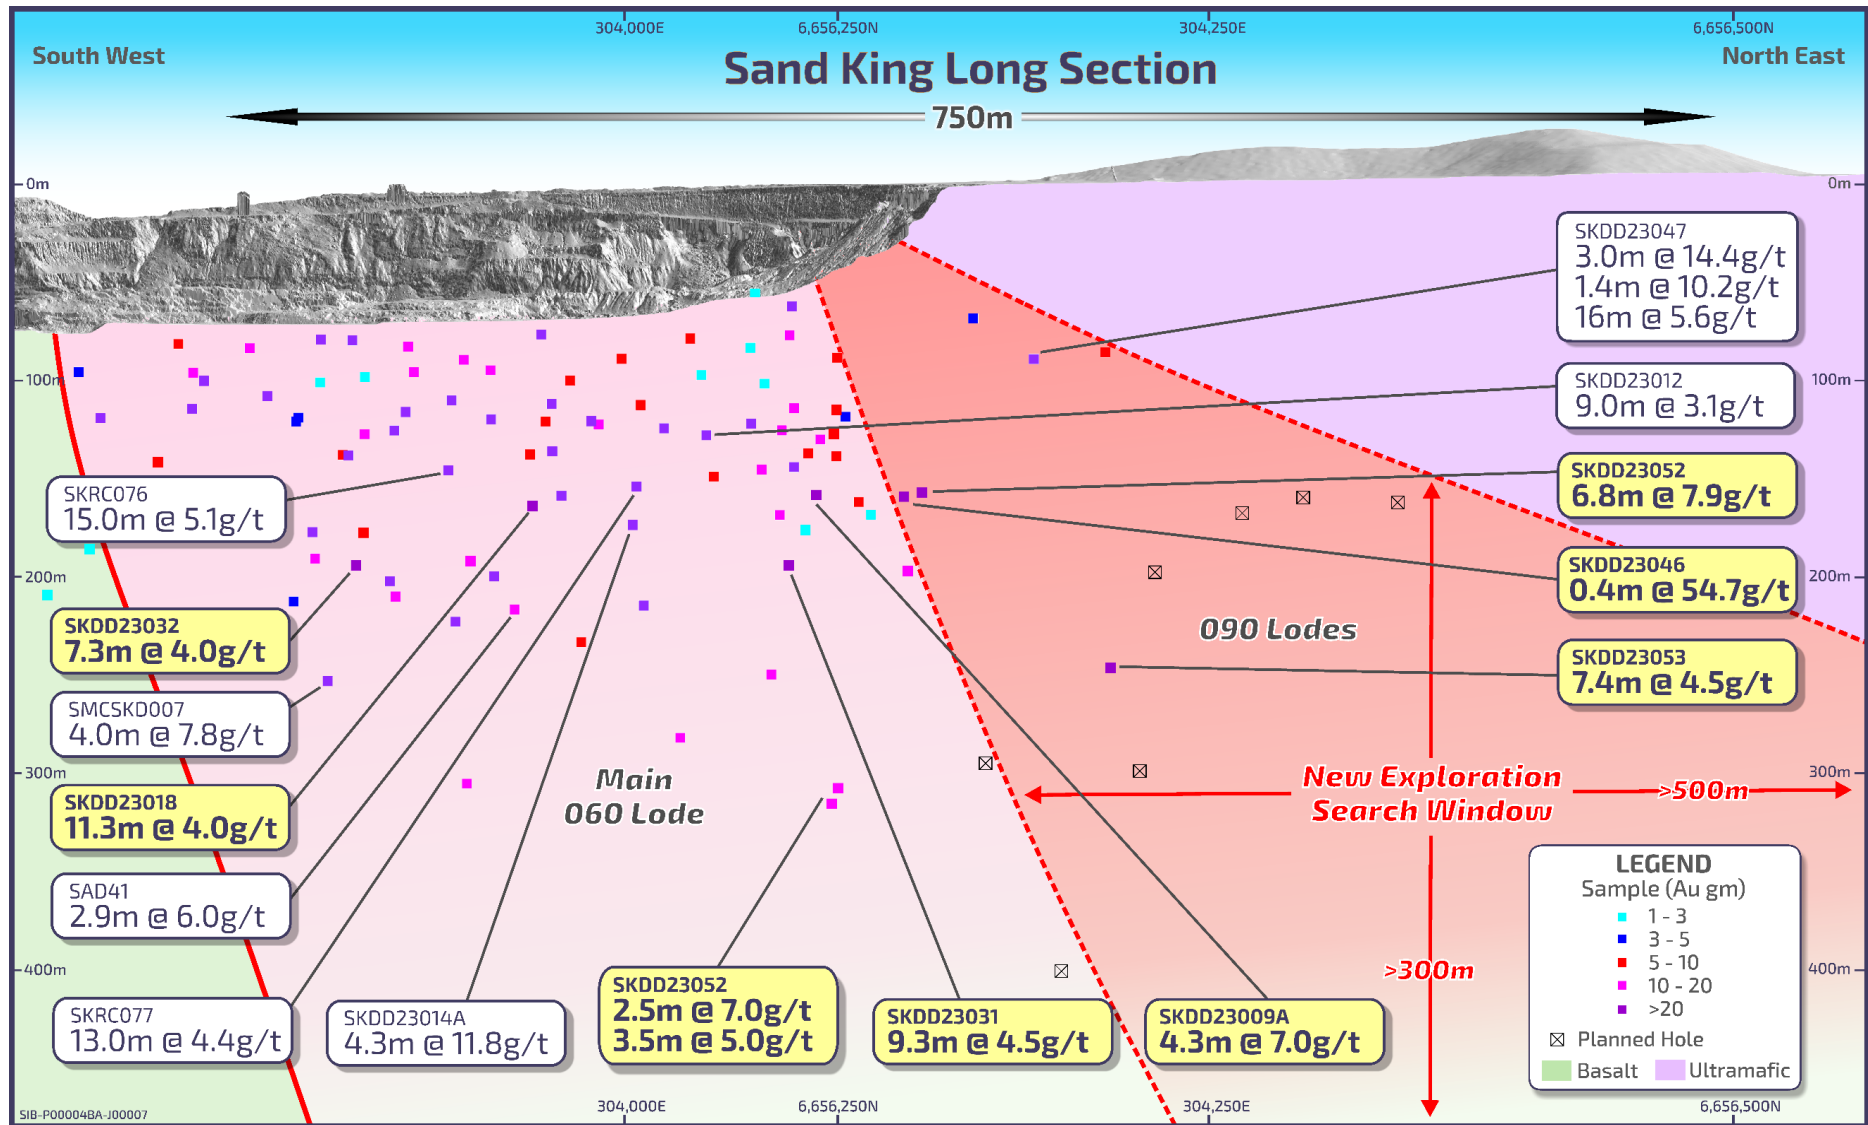

Figure 11 – Sand King Long Section view looking to the north west showing new intersection in yellow text boxes
- An extensional hole targeting the newly discovered 090 lode (as announced on 28 February 2024) returned 7.4m @ 4.5g/t which extends the mineralisation over 150m deeper than the discovery hole and expands the search window under the ultramafic substantially (see Figure 11)